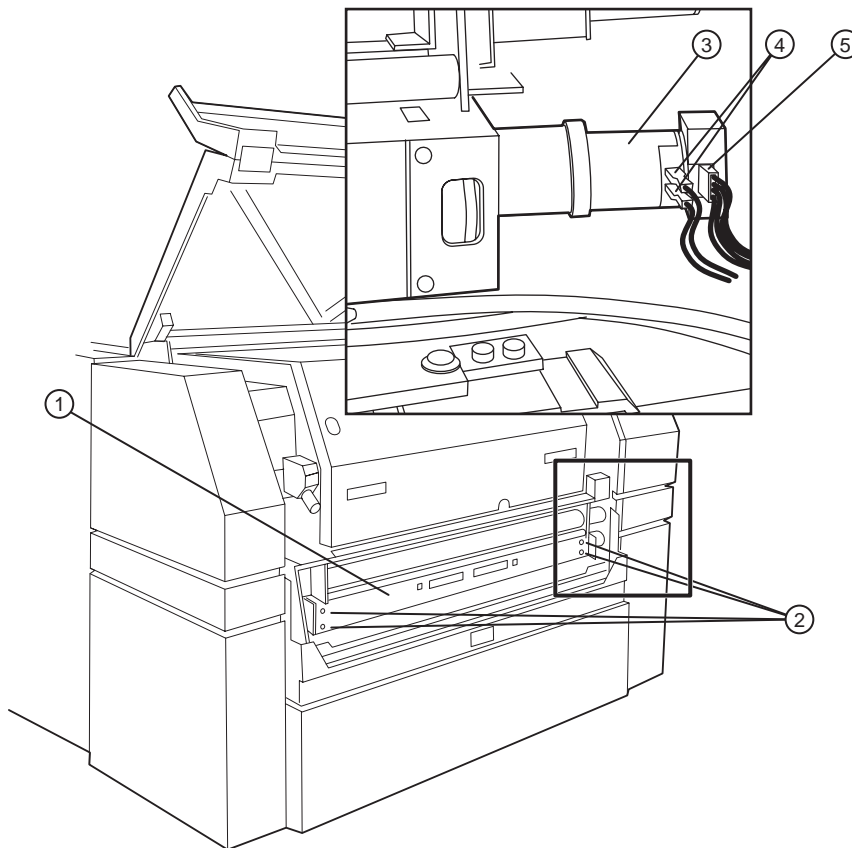

Figure 4-9 Inner take-up drive (nip) assembly.
6. Disconnect the power plugs from the motor. Refer to Figure 4-9.
NOTE: For purposes of replacement, the power sockets are marked: 1 = red wire; 2 = brown wire. Refer to Figure 4-9.
- ①—Inner take-up drive (nip) assembly.
- ②—4 3/16" allen screws securing the drive to the system.
- ③—Motor. ④—2 power cables; 1=red, 2=brown.
- ⑤—Encoder cable.
7. Disconnect the encoder plug from the motor. Refer to Figure 4-9.
11. Using a 3/16" allen wrench, remove the four (4) bolts, two (2) on each side of the inner take-up (nip) assembly. Refer to Figure 4-9.
- ①—Inner take-up drive motor assembly. ②—Two 1/4" hex screws.
③—Bracket. ④—Tie-wrap. ⑤—Motor gear. ⑥—Allen screw.
- Disconnect the power plugs from the motor. Refer to Figure 4-9.
- Disconnect the encoder plug from the motor. Refer to Figure 4-9.